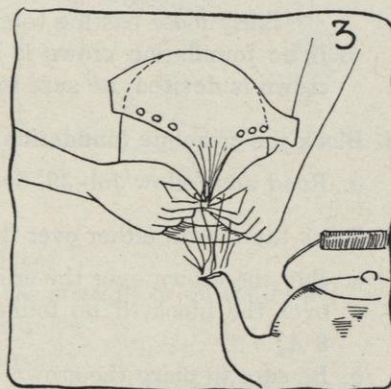

FIG. 3.
- d. Allow for a seam, as shown in Job 21, Sections 3 b (1) and (2) and see Figures 3 and 4 A of that job (page 87). The seam must be exactly on the straight thread of the material, because for side crowns, one usually uses a true bias. If you have more material than is needed for the seam, cut off the surplus, but be very careful to cut only on the straight thread.
- c. Hold the block so that one bias corner of the material is over the steam. When it is slightly moist, stretch it downward, pulling the bias corner down and against the crown block and away from the straight of the goods toward the center of the bias corners and under your thumb. Repeat this until all of the fullness is removed. Then tack it to the block (see Figure 3).